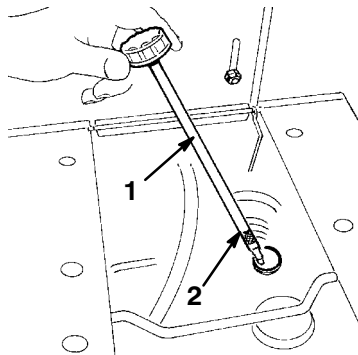

Figure 14
2. Clean around the oil dipstick (Fig. 14) so dirt cannot fall into the filler hole and damage the engine.
3. Unscrew the oil dipstick and wipe the metal end clean (Fig. 14).
5. Unscrew the dipstick and slowly pour 80% of the specified amount of oil into the filler hole (Fig. 14). Check the oil level; refer to Checking the Oil Level, page 22, steps 3-4.